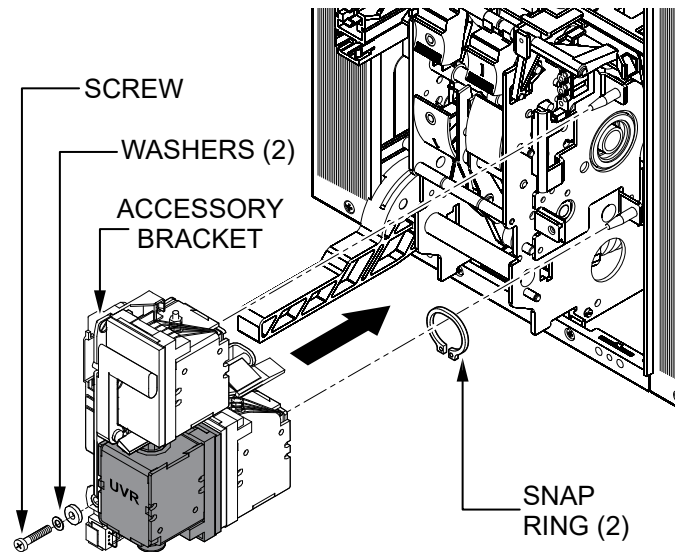

Figure 19. Reinstall Accessory Bracket
13. Reinstall the **accessory bracket** (Figure 19) onto the circuit breaker assembly using the **screw, washers, and snap rings** that were removed earlier. Tighten the screw securely (1.47 lbf·ft/2.0 N·m).